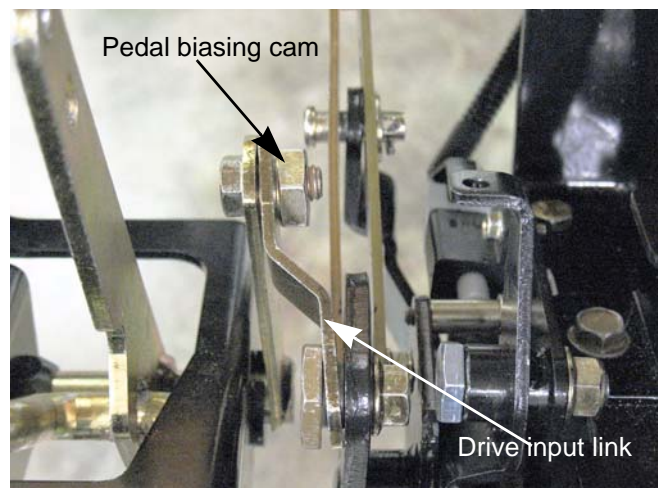

Figure 6.25
14. Attach the front side of the drive input link using a 9/16" wrench and a 15/16" wrench. See Figure 6.25.